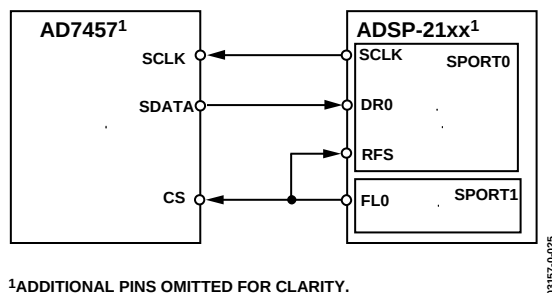

Figure 25. AD7457 to ADSP-218x
The ADSP-218x family of DSPs can be interfaced directly to the AD7457 without any glue logic. The serial clock for the ADC is provided by the DSP. SDATA from the ADC is connected to the data receive (DR) input of the serial port and $\overline{CS}$ can be controlled by a flag (FL0). The connection diagram is shown in Figure 25.